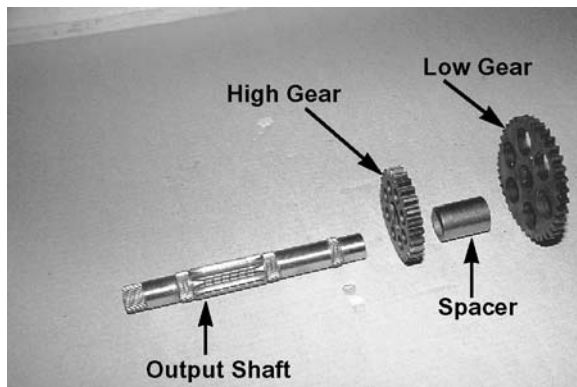

Figure 5-79.
19. Remove the low range gear and inspect for any damage. Remove the spacer. Then remove the high range gear and inspect for damage. See Figure 5-79.